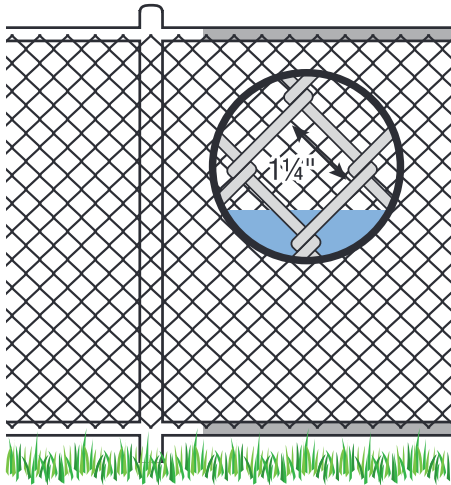

Figure 5
8. **Maximum mesh size for chain link fences** should not exceed $1\frac{1}{4}$ inch square, unless the fence is provided with slats fastened at the top or the bottom that reduce the openings to no more than $1\frac{3}{4}$ inches (figures 5 and 6).